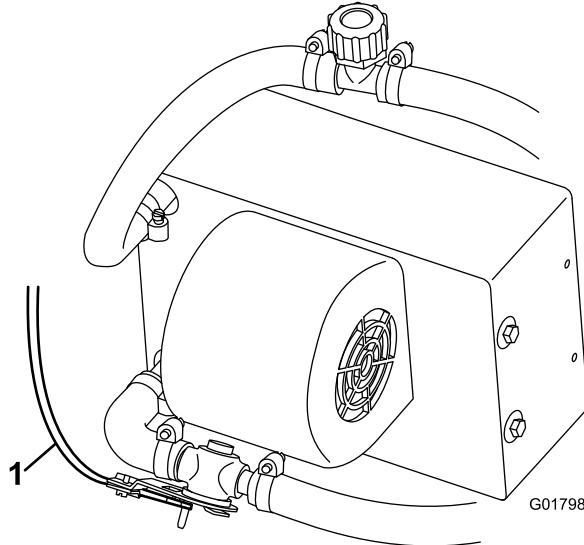

Figure 30
9. Route and connect the heater-control cable to the heater valve (Figure 30).